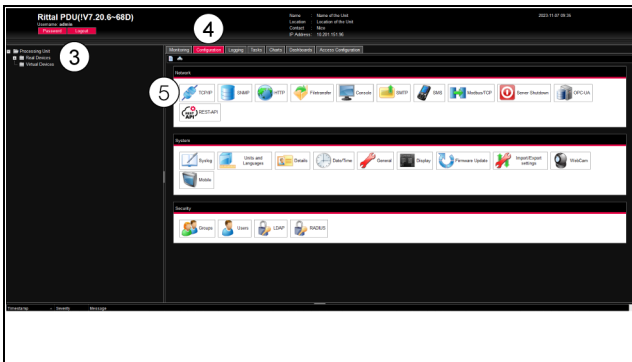

Fig. 37: Customise the TCP/IP settings
- In the left-hand section of the overview window (navigation area), click the **Processing Unit** entry (fig. 37,
item 3), and in the right-hand section (configuration area), click the **Configuration** tab (fig. 37, item 4).
- In the **Network** group box, click on the **TCP/IP** button (fig. 37, item 5).